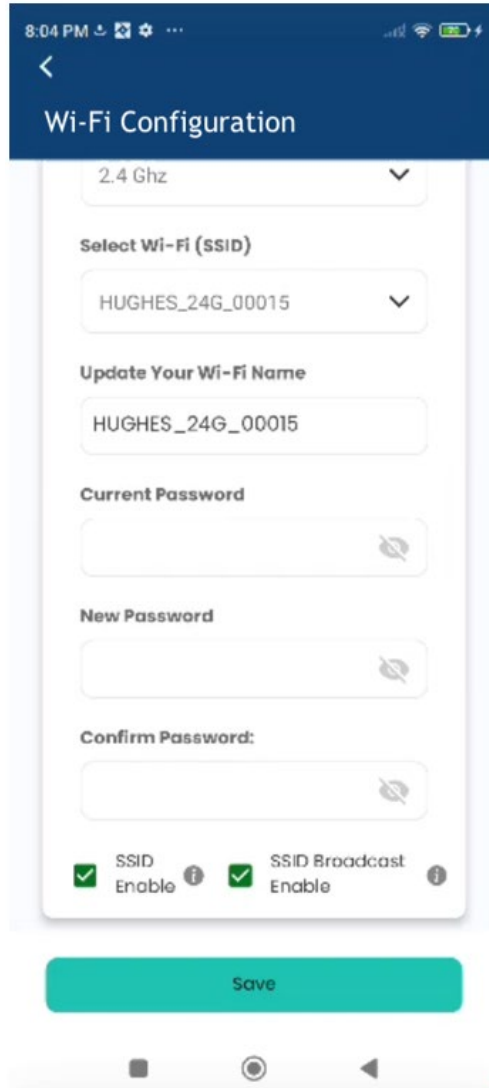

Figure 134: Change Wi-Fi configuration screen
5. Click on the **Change Wi-Fi Configuration** link to launch the screen shown in Figure 134.